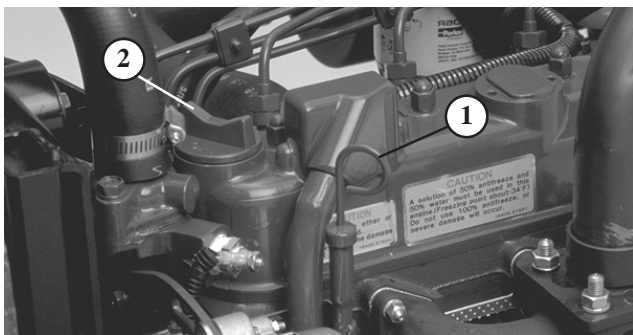
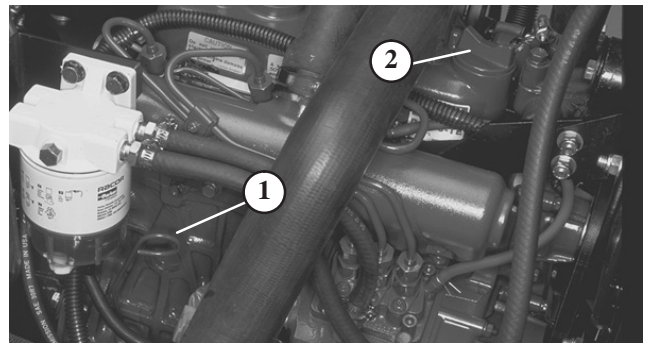

Figure 14
Figure 15
2. Remove dipstick, wipe clean, and reinstall dipstick. Remove dipstick and check oil level on dipstick; Oil level should be up to FULL mark (Reelmaster 5200—Fig. 14, Reelmaster 5400—Fig. 15).